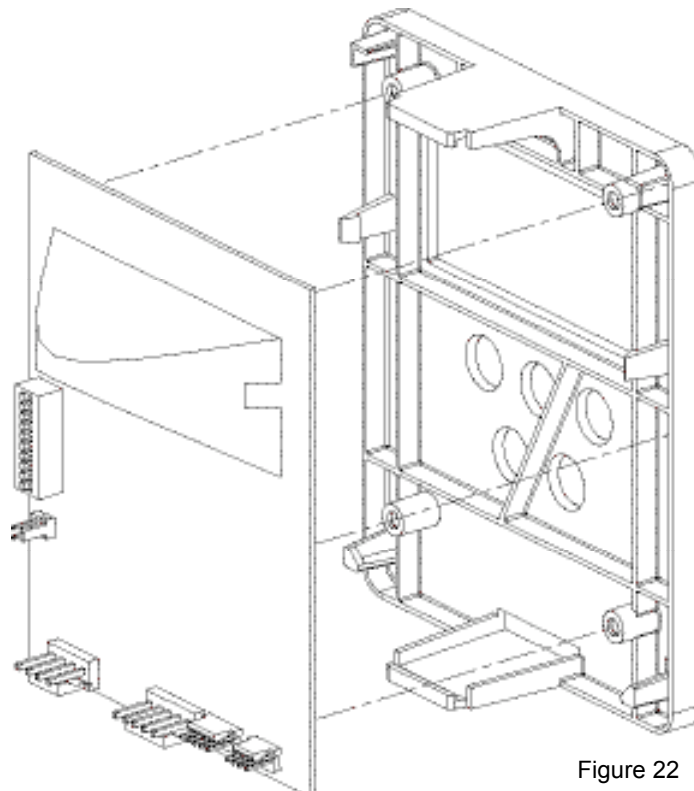

Figure 22
4. Unsnap the circuit board from the mounting plate. See Figure 22.